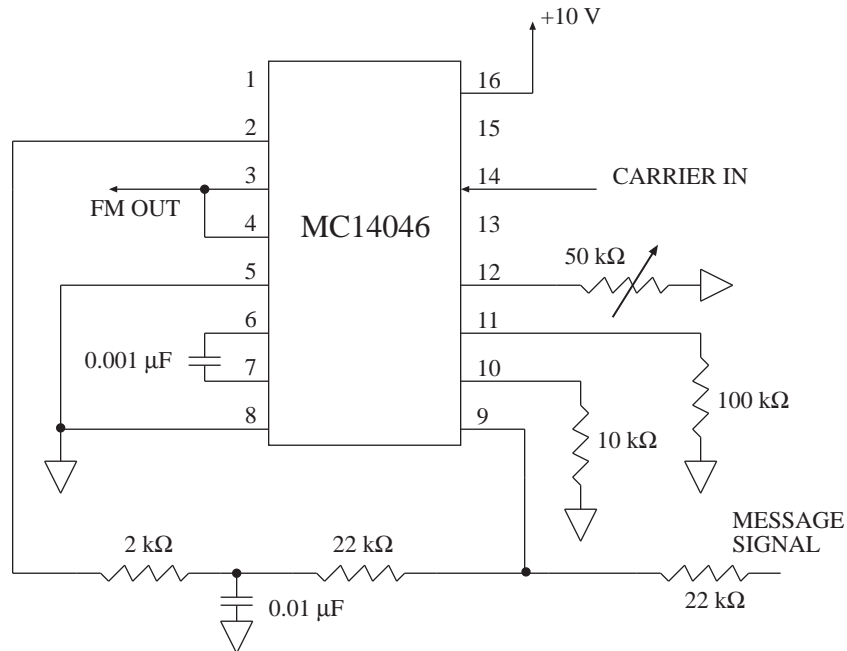

Figure 4: FM modulator circuit based on the MC14046.
Frequency modulation (FM) is a form of angle modulation where the message signal $m(t)$ is used to vary the carrier frequency. Review the material on FM covered in Lab 4 and discussed in your textbook. An implementation based on the MC14046 IC is shown in Figure 4. Review details of the MC14046 IC by studying the data sheet on the course web site.
- (b) Construct the circuit shown in Figure 4 to implement the FM modulator.